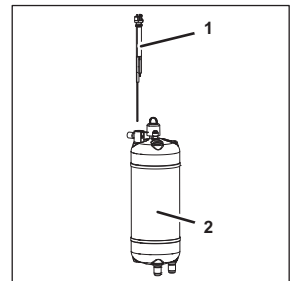

Fig. 77
3. Turn the level electrode (Fig. 77/1) out of the carbonator tank (Fig. 77/2) using a socket spanner and extension.
5. Attach the new level electrode (Fig. 77/1) to the carbonator tank (Fig. 77/2) by turning it.